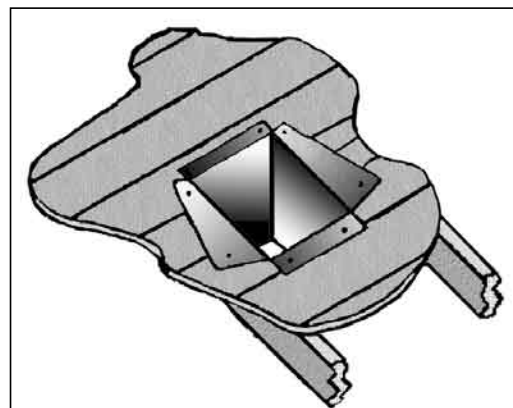

Figure 29: Cathedral Ceiling Support Box Installation.
- STEP 5.** Using tin snips, cut the "Support Box" from the top corners down to the roof line, and fold the resulting flaps over the roof sheathing (Figure 29). Before nailing it in to the roof, run a bead of non-hardening mastic around the top edges of the "Support Box", to make a seal between the box and the roof. Clean out any combustible material from the inside of the "Support Box".